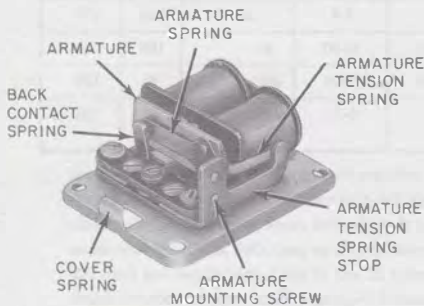
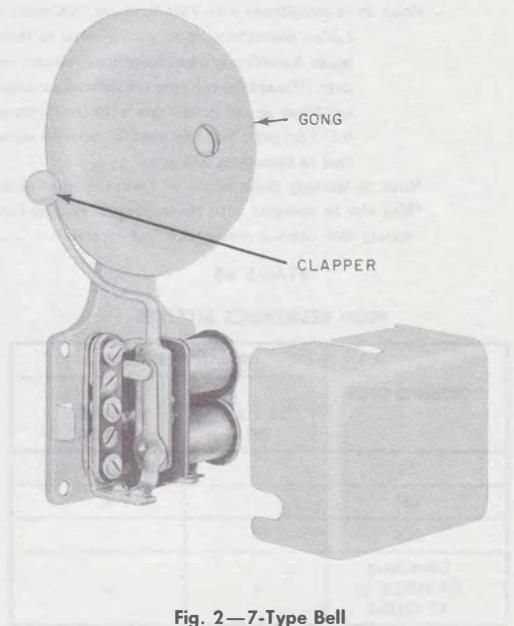

Fig. 1—7F Buzzer
Fig. 2—7-Type Bell
2.04 The 7F buzzer (A&M Only) (Fig. 1) and the 7-type bell (Fig. 2) have the same design features except the bell is equipped with a clapper and 3-inch gong.
2.07 The gong of the 7-type bell (Fig. 2) has its mounting hole drilled off-center. The eccentricity of the mounted gong provides for adjustment of the bell's volume by rotating the gong to increase or decrease the travel distance between the clapper and the gong.
(e) The 7F buzzer (Fig. 1) may be mounted in any position. A preferable position for mounting on vertical surfaces is with armature hanging vertically from hinged end to reduce amount of dust settling on contacts.